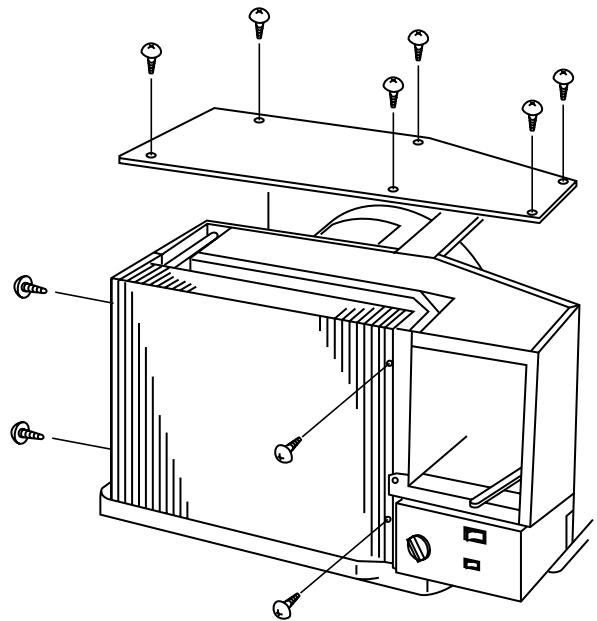

Fig. 11
- (1) Remove screws holding top plate of evaporator. (Fig. 11)
- (2) Remove screws holding evaporator. (Fig. 11)
- (3) Grasp lower portion of the evaporator with both hands and tilt it slightly and lift it carefully from the drain pan so as not to distort the copper tube.
(Fig. 11)